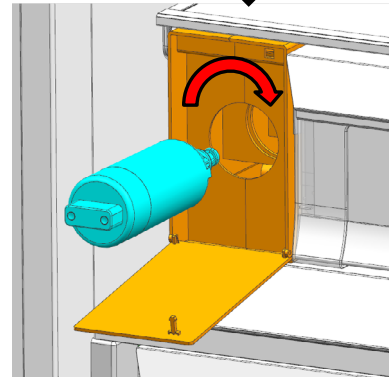

Figure 3
3. Push the new filter into the housing and rotate clockwise until secure (Figure 3).